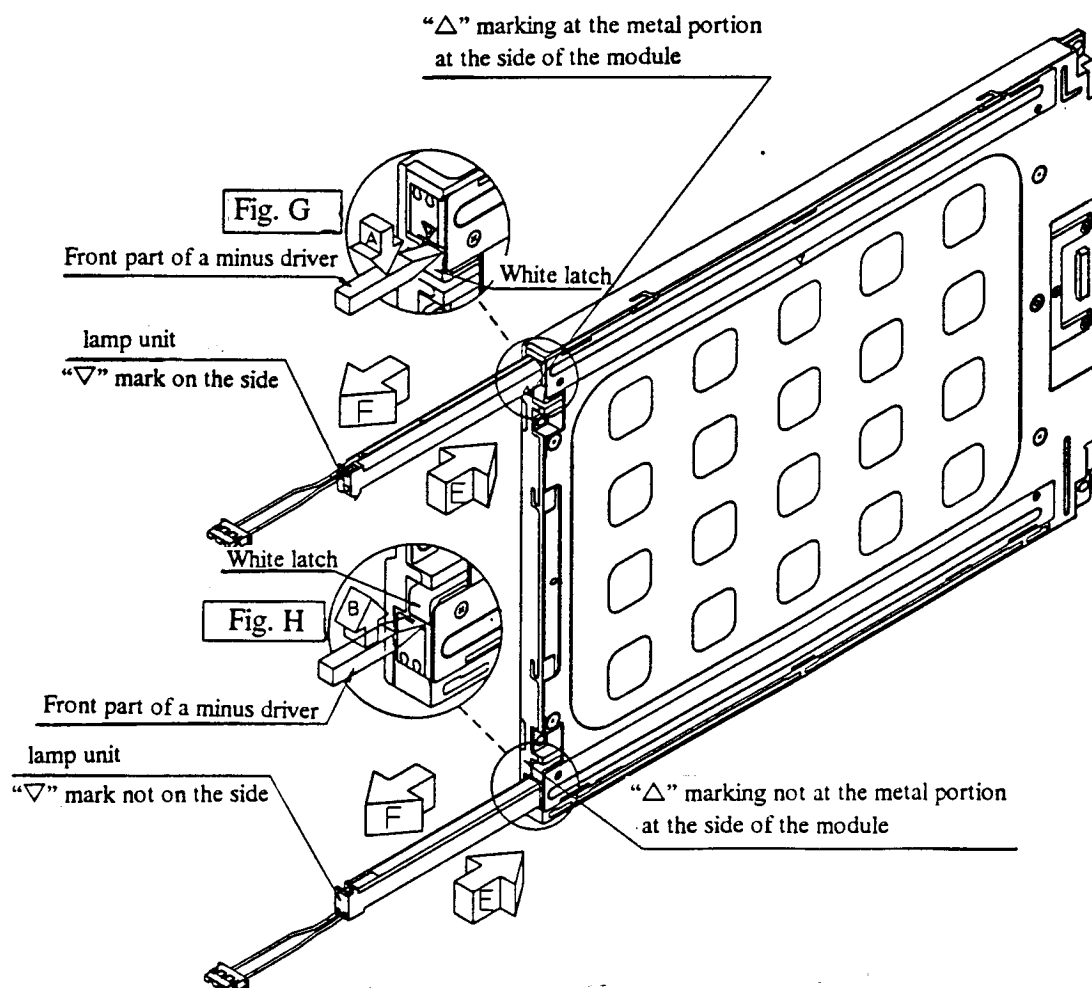
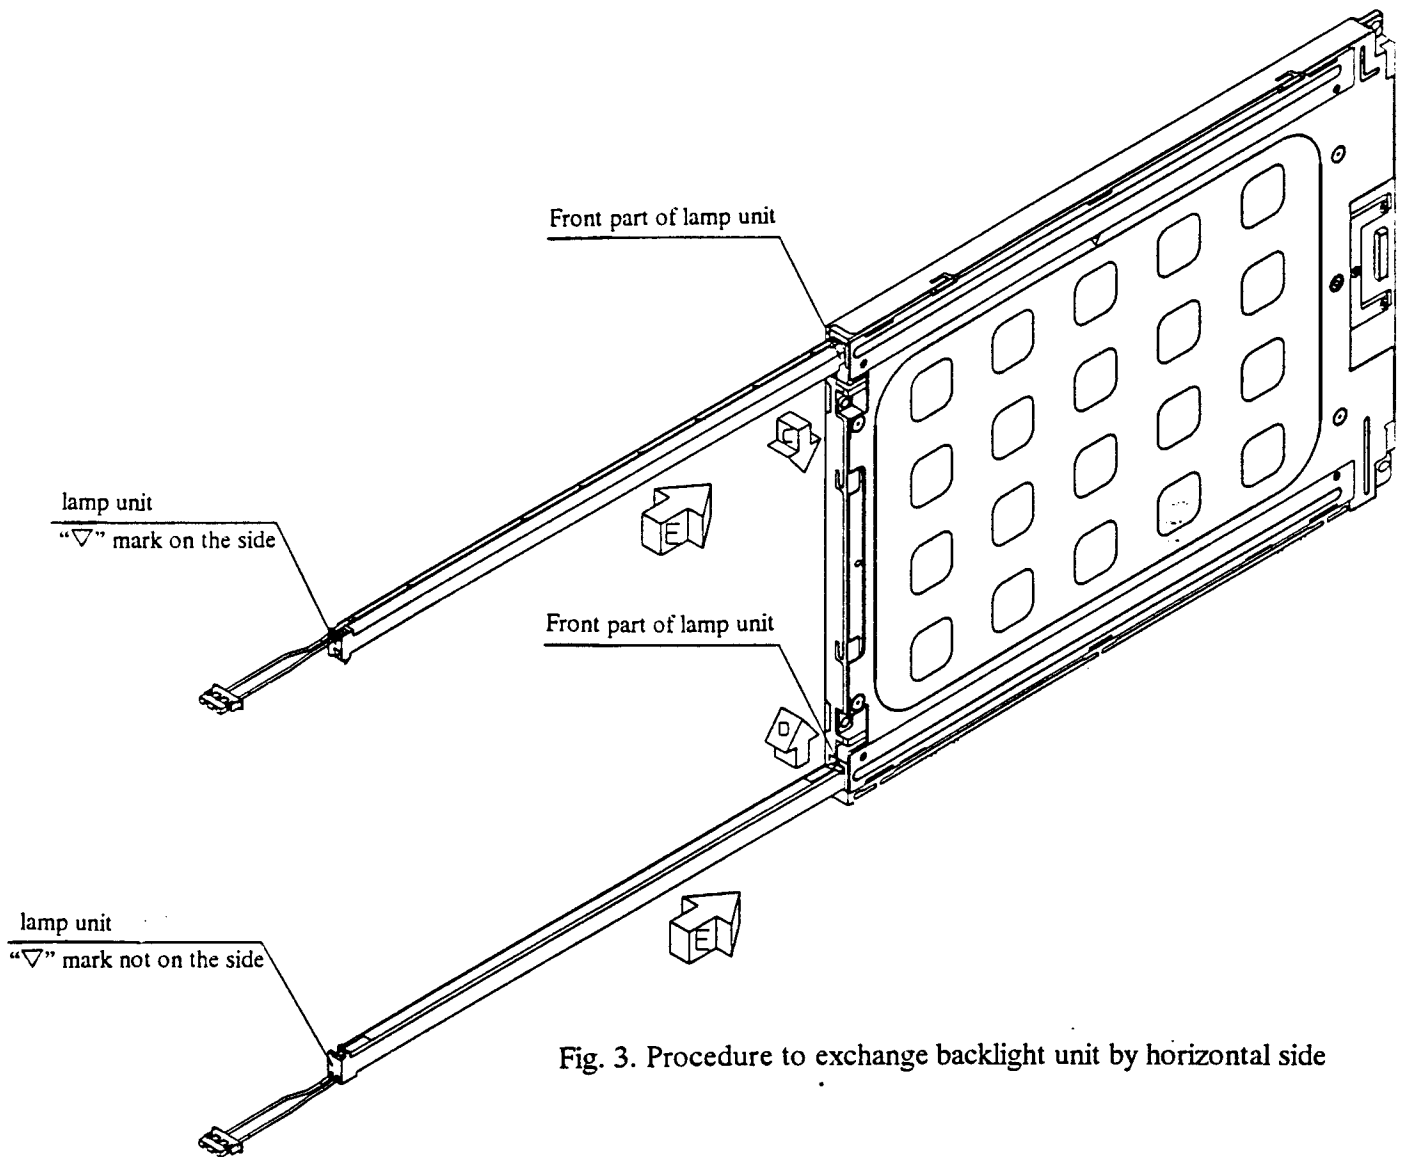

Fig. 2. Procedure to exchange backlight unit by horizontal side
Fig. 3. Procedure to exchange backlight unit by horizontal side
8-1) By Horizontal Slide(refer to Fig.2 and Fig. 3)
- ① Push the white latch (refer to the Fig.G and Fig.H) in the direction A or B with a minus driver. Lamp unit can be drawn out in the direction " F " . (refer to Fig. 2)
- ② Replace the new lamp unit with the one that has a marking "▽" on the surface. And the other new unit with no marking on it. Insert both lamp in the direction " C " When inserting the lamp, push the light guideplate, located inside the LCD module, in the direction " C " or " D " so that the lamp unit can be inserted smoothly. Then insert in the direction " E. " (refer to Fig. 3)
- ③ Please insert the lamp with care while replacing. Please be careful for any dust that goes in. Please make sure that the lamp unit is in all the way. You can hear the sound " click", if the Lamp unit is placed in the right position.
- ④. Not only one side ,both lamps should be exchanged.